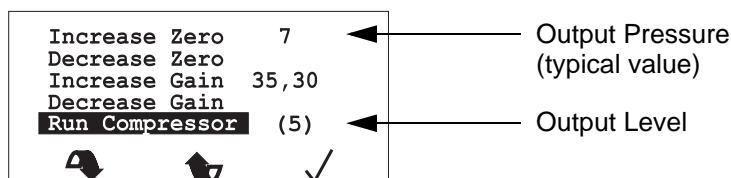

Figure 24 - LCD Display - Output Pressure
- 7.7 To start the test, scroll down the list of options to **Run Compressor**, and select it using the **✓** button. The compressor will start running at output level “5”, indicated by the **(5)** on the LCD display, and the **Output Pressure** shown on the LCD display should rise and then stabilize (Refer to Figure 24).